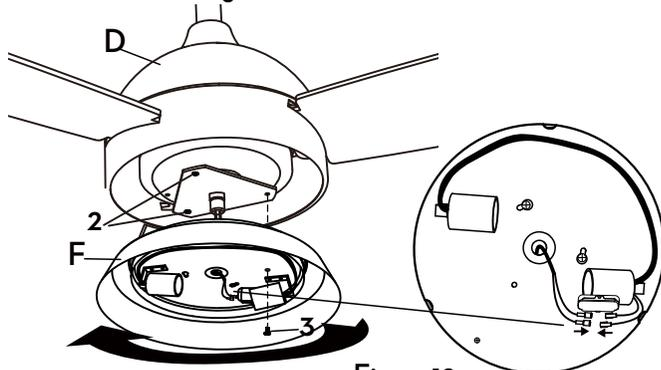

Figure 12
- Loosen two adjacent screws (2) and remove the third screw (3) from the light kit plate. Save the third screw (3) for later use. (Figure 12)
- Insert the light wires through the center hole of the light kit and align the two slotted holes on the light kit to the two light kit screws. Turn the light kit counter-clockwise until the two screws (2) snap into place. Secure the light kit to the light kit plate with the third screw (3), tighten all the screws.